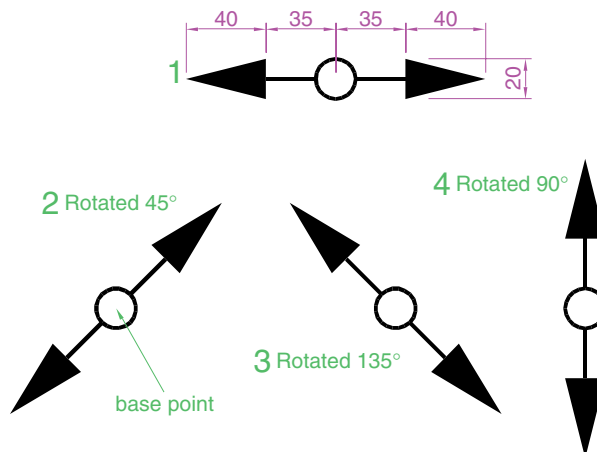

Fig. 5.27 Example – **Rotate**
Example – Rotate (Fig. 5.27)
1. Construct drawing **1** of Fig. 5.27 with **Polyline**. Copy the drawing **1** three times – shown as drawings **2**, **3** and **4** in Fig. 5.27.
3. Repeat for drawings **3** and **4** rotating through angles as shown in Fig. 5.27.